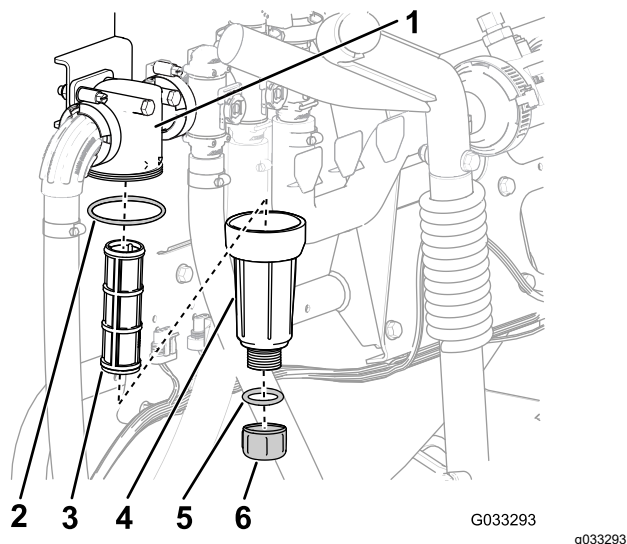

Figure 29
2. Align a drain pan under the pressure filter (Figure 29).
3. Rotate the drain cap counterclockwise and remove it from the bowl of the pressure filter (Figure 29).
4. Rotate the bowl counterclockwise and remove the filter head (Figure 29).
5. Remove the pressure filter element (Figure 29).
7. Check the gasket for the drain plug (located inside the bowl) and the gasket for bowl (located inside the filter head) for damage and wear (Figure 29).
8. Install the pressure filter element into the filter head (Figure 29).
9. Install the bowl onto the filter head, and tighten by hand (Figure 29).
10. Assemble the drain cap onto the fitting at the bottom of the bowl, and tighten the cap by hand (Figure 29).